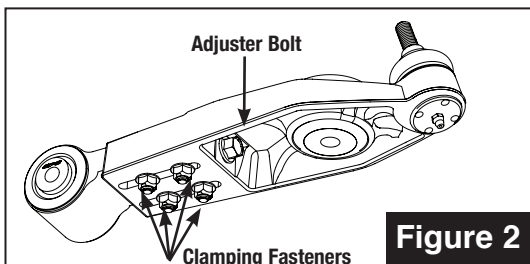

Figure 2
9. If tight, loosen clamping fasteners on SPC control arm $\frac{1}{4}$ to $\frac{1}{2}$ turn (4x 13mm nuts – located on underside of control arm, see **Figure 2**.
10. Adjust camber to desired specification using adjuster bolt located on underside of control arm, see **Figure 2**.